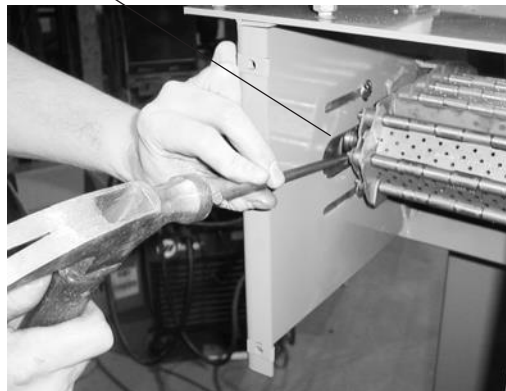

Figure 13. Removing the Axle Pin
7. Remove the cotter pin or axle pin from the drive side of the axle aligned with the take-up slot (Figure 13). Because the axle pins are press fit, it will be necessary to use a hammer and drive pin to remove the axle pin.